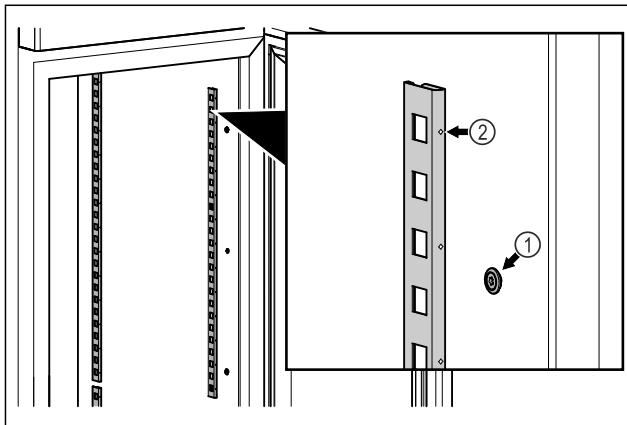

Fig. 56 Example illustration
- ▶ Hook the snap strips into the suspension Fig. 56 (1). Mark Fig. 56 (2) must point forward.